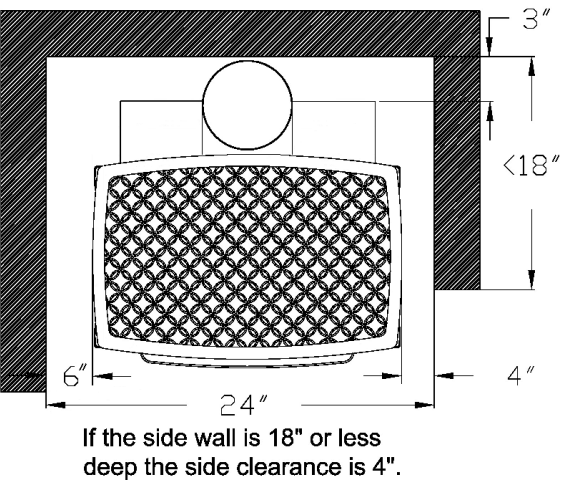

Figure 5 - Minimum Wall Clearances
- 🔥 Due to high surface temperatures, locate the unit out of traffic areas and away from furniture and draperies. Do not place clothing and other flammable material on or near the heater. When positioning the unit always maintain adequate clearances around air openings into the combustion chamber and allow for adequate ventilation. Minimum clearances to combustibles must be maintained as shown in Figures 5 - 8.